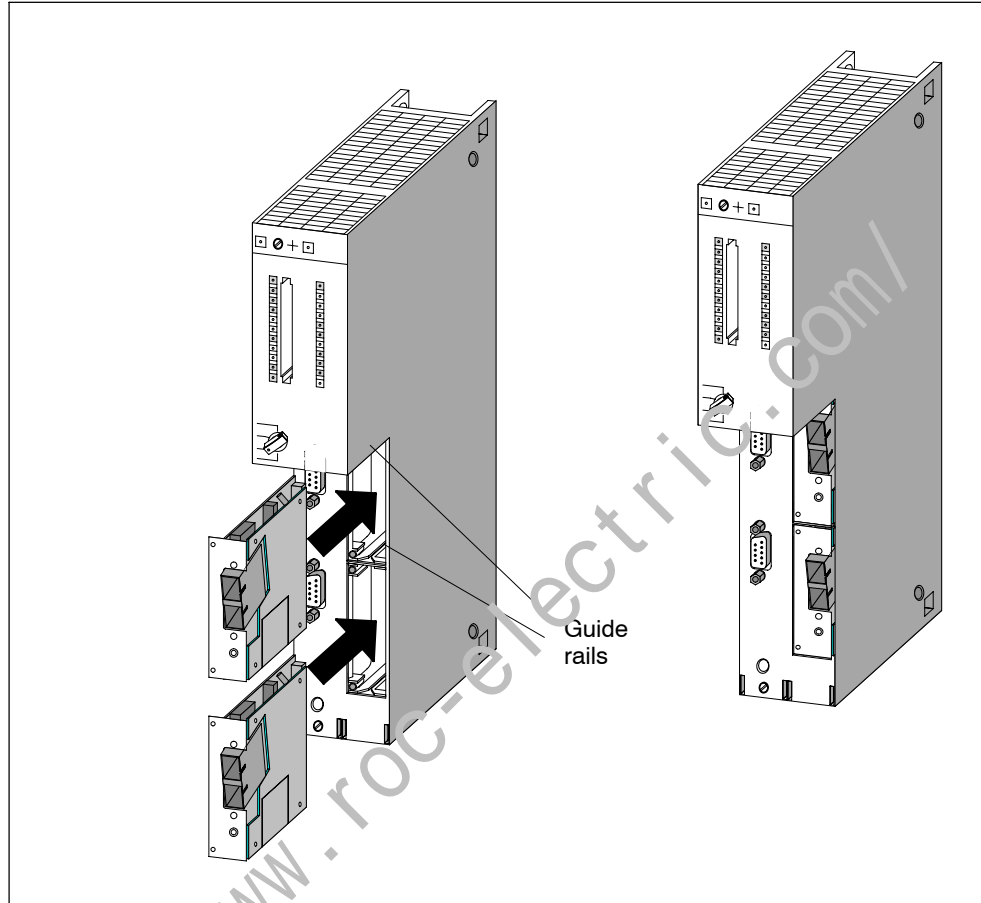

Figure 6-4 Inserting Interface Submodules in the CPU
2. Insert the PCB end of the interface submodule in the lower and upper guides of the card slot, as shown in Figure 6-4.